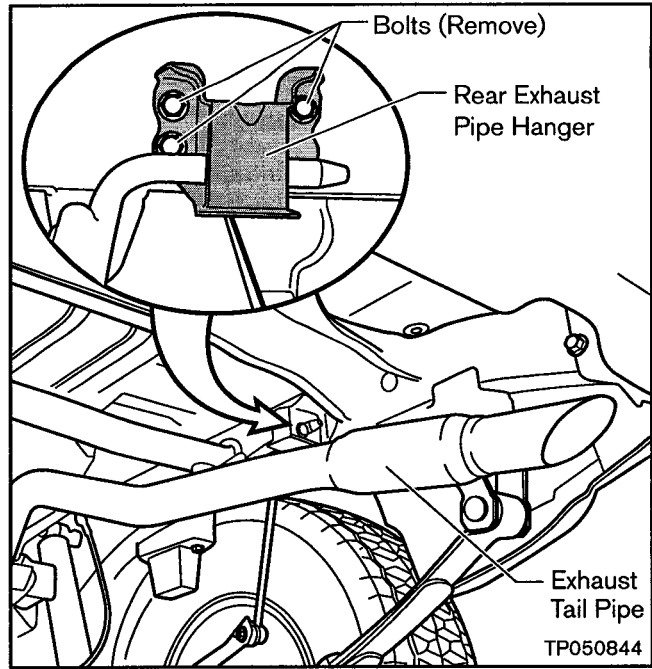

Figure 9
9. Remove three Bolts and disconnect the Rear Exhaust Pipe Hanger from the Frame (see Figure 9).